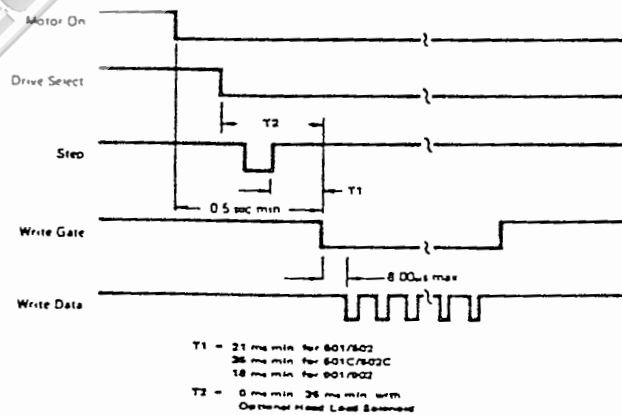

Figure 3-8: Write Initiate Timing
When true, this input line permits writing of data. When inactive, it permits transmitting data to the controller. Allow a minimum of 1 ms after dropping WRITE_GATE before expecting valid READ DATA (see figures 3-8 and 3-10).
The frequency of the WRITE DATA is dependent upon the encoding scheme used, the density option exercised, and the data pattern to be written. The write oscillator frequency stability should be held to 0.1%. The data pulse width should be a minimum of 0.2 μ s and a maximum of 3.5 μ s wide. WRITE DATA is effective when WRITE_GATE is true. It is recommended that the leading edge of the first WRITE DATA pulse occur no sooner than 4 μ s and no later than 8 μ s after the leading edge of the WRITE_GATE true signal. The WRITE_GATE false signal should occur no sooner than 4 μ s and no later than 8 μ s after the last data pulse. (see figures 3-8 and 3-9)
- C. Head must be settled subsequent to the STEP command (see figure 3-8).
The preceding conditions may be overlapped. It is recommended that the first WRITE DATA command be within 4 to 8 microseconds after WRITE GATE goes true, and the last WRITE DATA command be within 4 to 8 microseconds before WRITE GATE goes false (see figure 3-8).